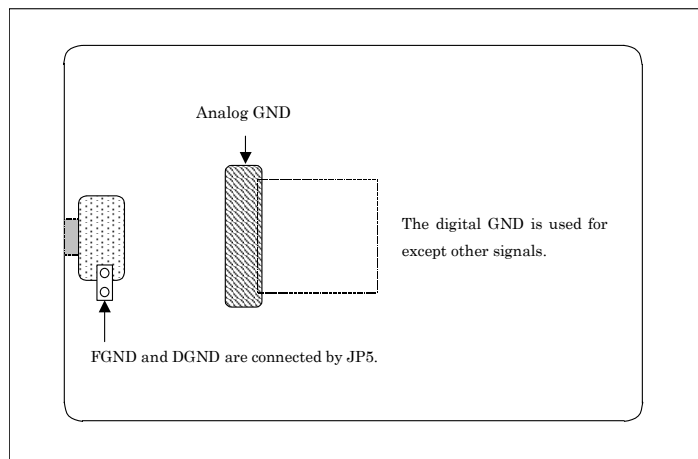

Figure 2 M3A-0038G01 fourth layer
- Connect the power supplies and grounds firmly on wide areas. Refer to Figure 2 “GND” on page 7.
- The analog ground (AGND) is allocated on the fourth layer. The analog ground has almost the same shape as the analog power supply (AFEA33V) on the third layer. Refer to the following Figure 2.